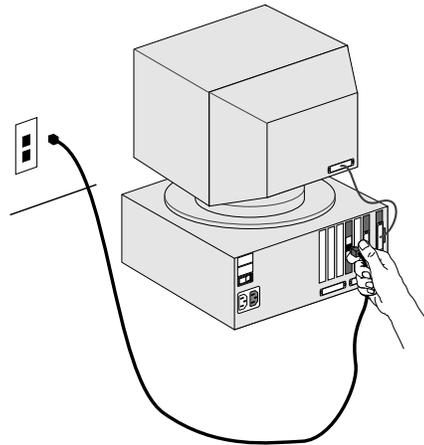

Figure 3-4. Connecting a 10BASE-T Interface Card
1. **Connect one end of a UTP patch cable (e.g. Model 910) to the RJ-45 port of the 10BASE-T interface card (see Figure 3-4).**
2. **Connect the other end to the RJ-45 connector of the wall outlet (see Figure 3-4).**